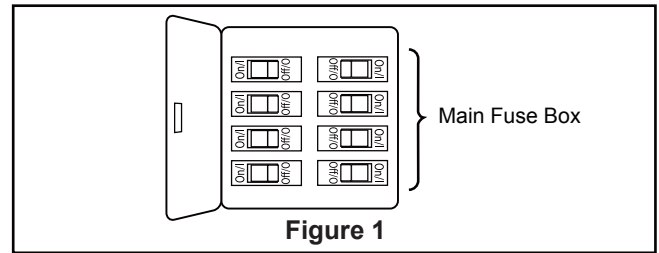

Figure 1
Low profile box (Figure 1)
1. Remove the hanger ball portion from the downrod/hanger ball assembly by loosening the set screw in the hanger ball until the ball falls freely down the downrod. Remove the pin from the downrod, then remove the hanger ball. Retain the pin and hanger ball for reinstallation in Step 6. (Figure 1)
To avoid possible fire or shock, be sure electricity is turned off at the main fuse box before hanging. (Figure 1)
- 1. To set the code on receiver unit, slide dip switches to the same positions as set on the remote control. (Figure 1)